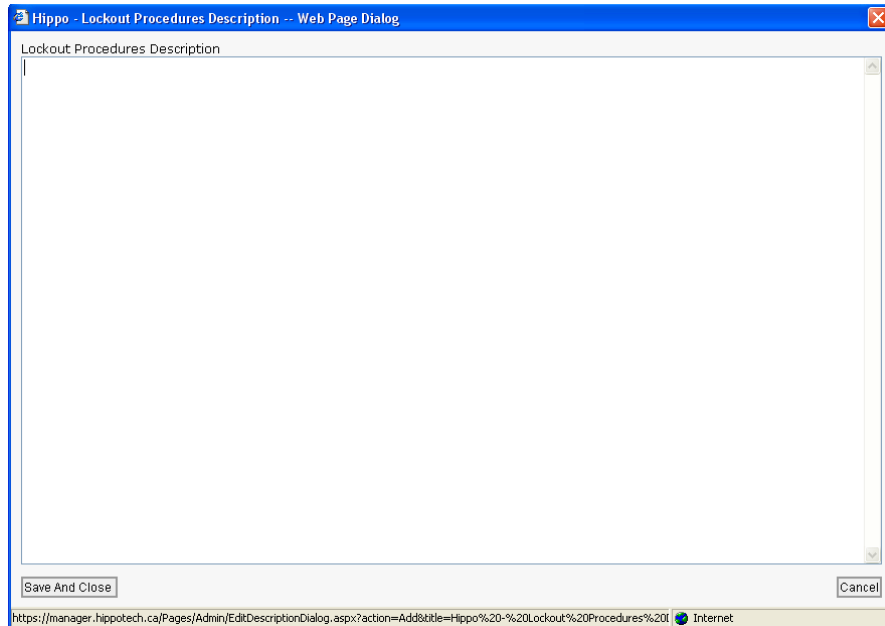

Figure 57: Lockout Procedure Description
- e. Edit lockout procedures (click the **edit lockout procedures** to edit this work order's lockout procedure) (See Figure 57)